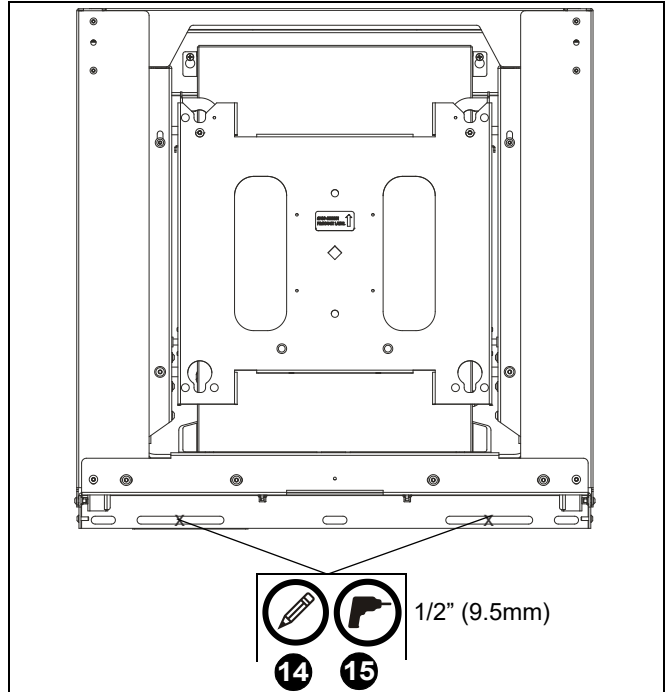

Figure 20
14. Mark hole locations for lower two mounting holes. (See Figure 20)
15. Remove mount (A) from top bracket.
16. Drill two 1/2" holes at marked hole locations. (See Figure 20)